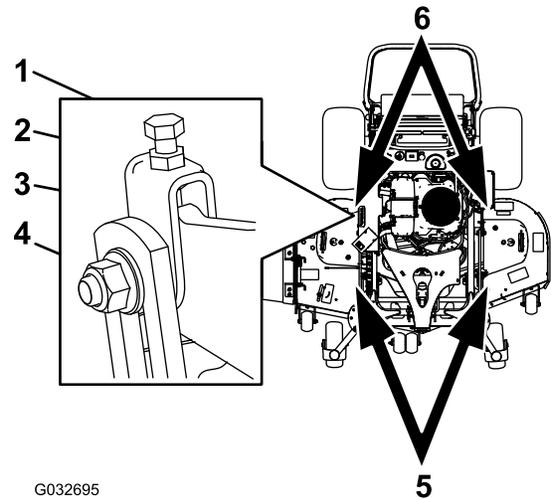

Figure 94
- Loosen the jam nut and side bolt in the yokes that you want to adjust (Figure 94).
2. Rotate the top bolt of the yokes to adjust the height of the mower deck (Figure 94).
5. If the measurement is not correct, locate the front 2 yokes on the machine (Figure 94).